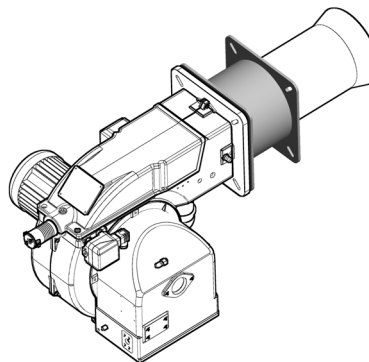

Fig. 2
- 2 Lift the plate using the screws as shown in Fig. 2